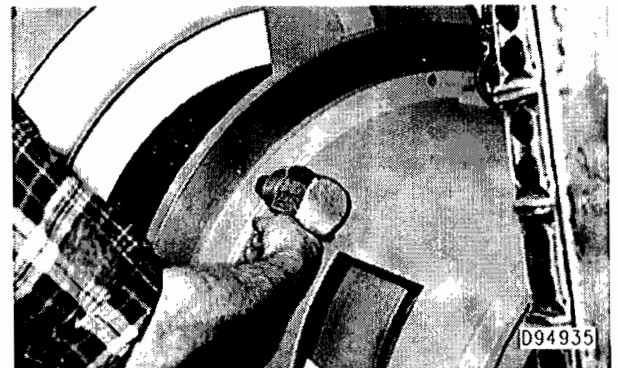

Figure 5
5. Connect a hoist to the lifting eyes on the exciter stator and remove the exciter stator mounting bolts. Remove the exciter stator from the endbell, being careful not to damage stator or rotor windings. The weight of the exciter stator is 75 Kg (165 lb). See figures 5 and 6.